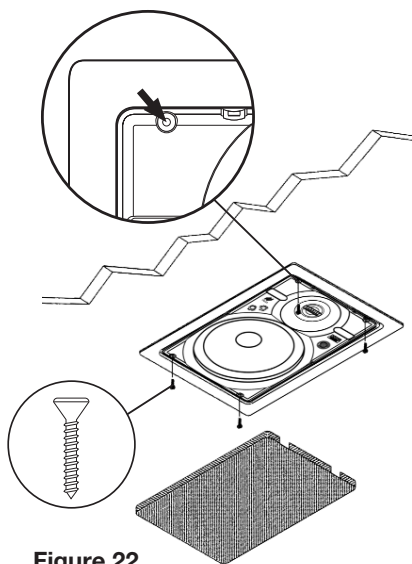

Figure 22
- b. Place the self-tapping sheet metal screw in the dimple and turn it with a screw driver until it cuts through the baffle and anchors securely in the frame (See Figure 22).